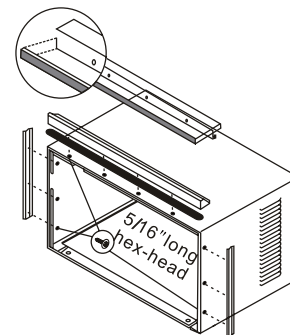

Fig.6
1. Attach foam gasket to top angle above holes as shown in Fig.6.
2. Install top angle and side retainers to cabinet as shown in Fig.6.